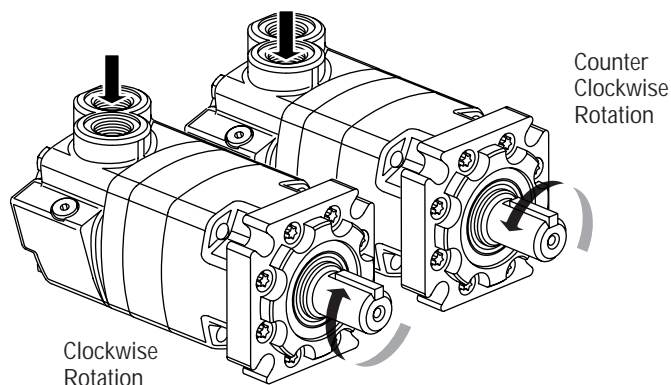

Figure 17
**Timing Step No. 3** — Locate any one of the side openings of the valve that goes through to the face of the valve. **Line up this side opening in the valve with open slot of valve plate that is in line with largest open pocket of Geroler.** Rotate valve clockwise (1/2 spline tooth) to engage valve with the valve drive spline, alignment reference shown in Figure 17 (above). This procedure provides standard timing when pressurized as shown in Figure 17.